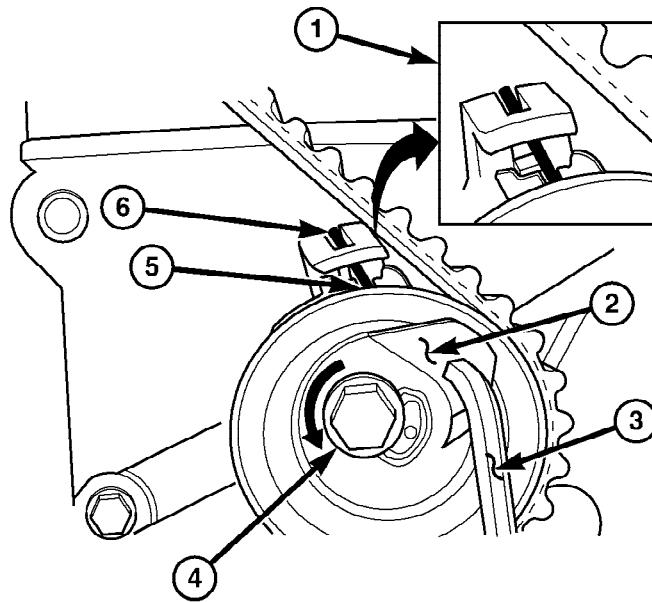

Fig. 127 Timing Belt Tension Adjustment
(5) Insert a 6 mm Allen wrench into the hexagon opening located on the top plate of the belt tensioner pulley. Rotate the top plate **COUNTERCLOCKWISE**. The tensioner pulley will move against the belt and the tensioner setting notch will eventually start to move clockwise. Watching the movement of the setting notch, continue rotating the top plate counterclockwise until the setting notch is aligned with the spring tang (Fig. 127). Using the allen wrench to prevent the top plate from moving, torque the tensioner lock bolt to 25 N·m (220 in. lbs.). Setting notch and spring tang should remain aligned after lock nut is torqued.
(6) Remove allen wrench and torque wrench.